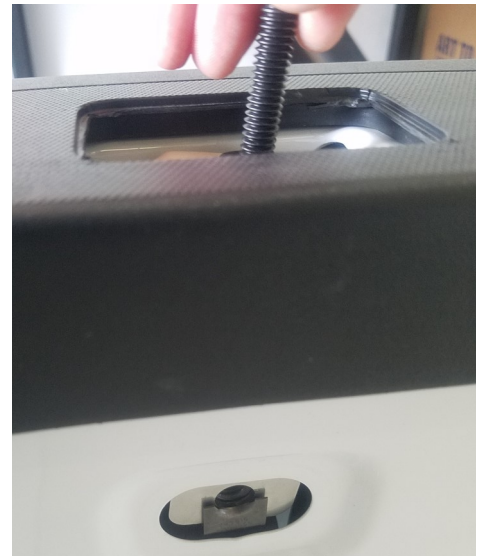

Figure 2: Lowering bracket into pocket. Nut clip facing into bed (touching bed wall) and centered in opening.
3. Thread the 3.25" long bolt into the bracket assembly, and lower it into the stake pocket. **NOTE: Some brackets are driver/passenger side specific!** Make sure nut clip is facing into the bed of the truck, and is centered in hole of bed wall (**Figure 2**).